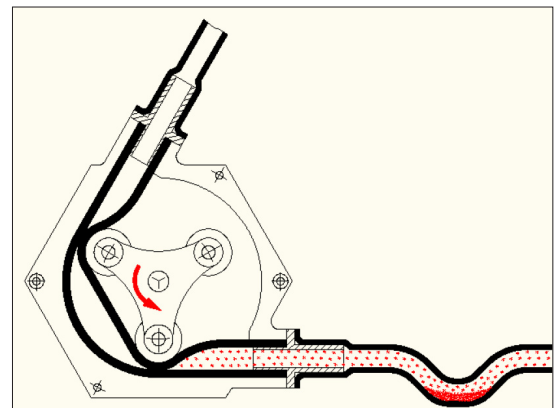

Figure 5 For the conveyance of media containing solids
- In case of connecting of suction resp. discharge pipes please consider that the cross section of the continuative pipes are as large as necessary. The transition to the continuative pipe must be big enough (see Table 5, Figure 5).
To avoid any damages we recommend to reverse the direction of rotation of the pump and to connect the discharge line to the lower, horizontal connecting socket. To get a further advantage a flexible hose should be used to connect the pump and a kind of trap should be created in which the solids settle out (see Figure 5).